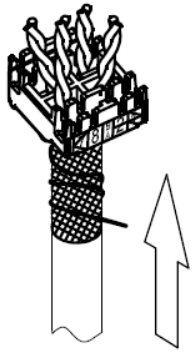

Fig. 8
- 1) Insert the wires into the cap through the holes (Fig 8)